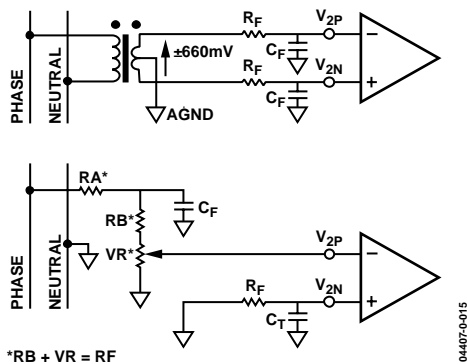

Figure 14. Typical Connection for Channel 2
Figure 14 shows two typical connections for Channel V2. The first option uses a potential transformer (PT) to provide complete isolation from the main voltage. In the second option, the ADE7761 is biased around the neutral wire, and a resistor divider is used to provide a voltage signal that is proportional to the line voltage. Adjusting the ratio of RA and RB + VR is a convenient way of carrying out a gain calibration on the meter.